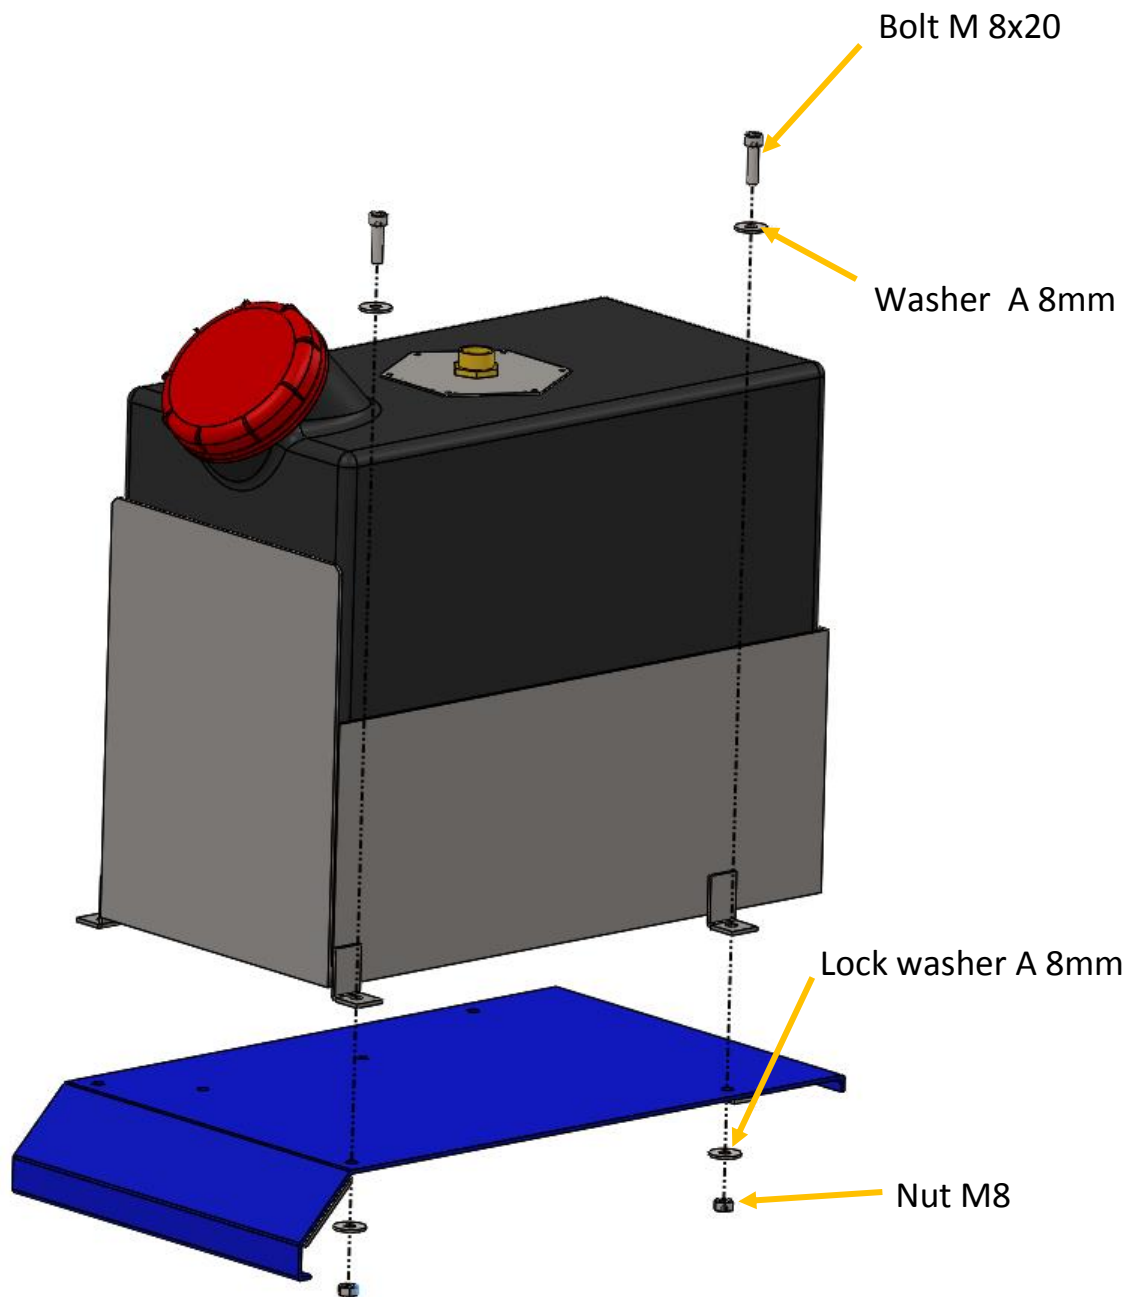

Fig. 6 – Explosion view front panel – fixing elements
1. Open switch box **(o)** and disconnect the cable of the pressure switch at terminal points 1 and 2 (see Fig. 6).